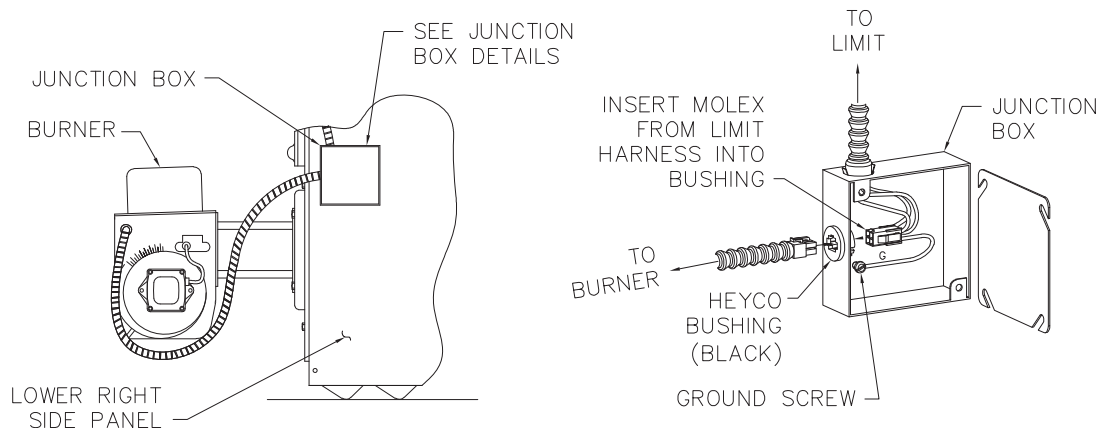
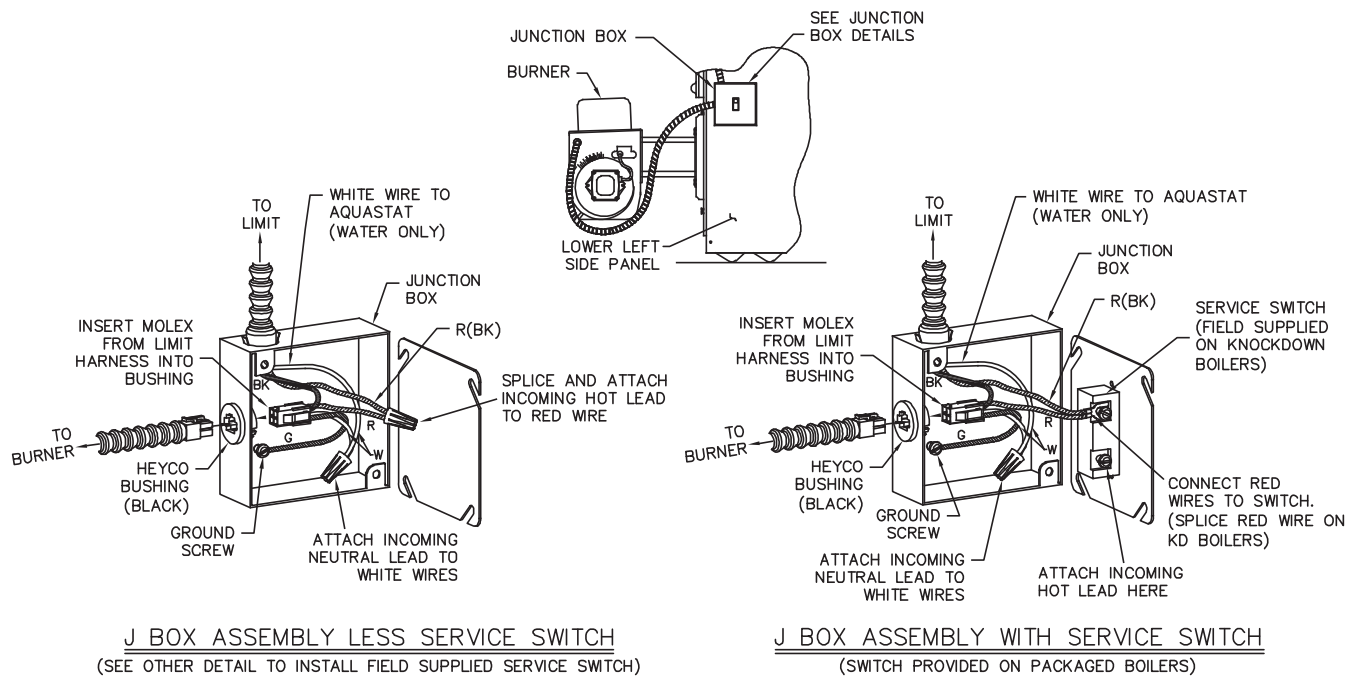

Figure 4.2: Junction Box Wiring, Knockdown Water Boilers
Figure 4.3: Junction Box Wiring, Steam Boilers
Install junction box, limit harness, and Heyco bushing, each located in the trim carton. See Figure 4.2 or Figure 4.3. Mount junction box to the holes in the right side of jacket with (2) #10 x 1/2" sheet metal screws. Attach Heyco bushing to 7/8" knockout in left side of junction box. Connect limit harness to 7/8" knockout on top of junction box and insert limit harness Molex connector into Heyco bushing until it snaps firmly in place.